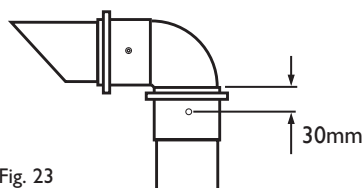

Fig. 23
13. Mark and drill the 60Ø exhaust, using a 2mm bit, as shown in Fig. 23. Complete the installation of the 60Ø exhaust, securing in the brackets.